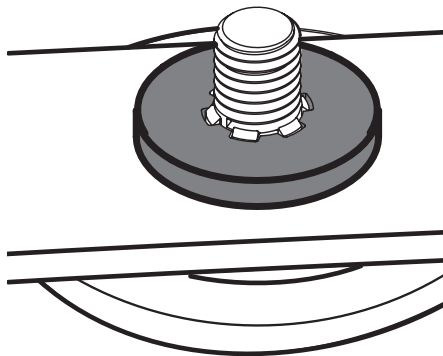

Figure 49
2. Carefully place the flat washer on the spindle shaft. Be sure that the splines at the base of the spindle shaft threads line up with the washer splines. See Figure 49.